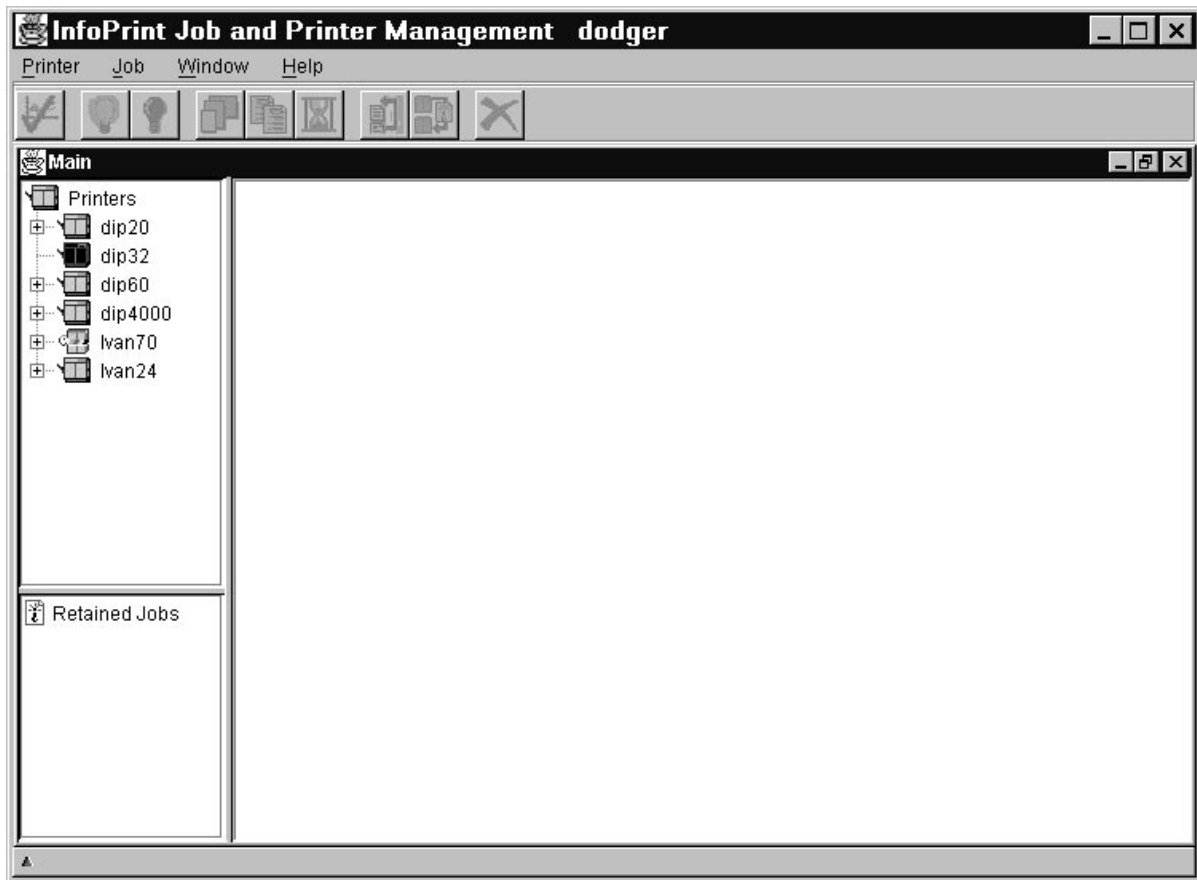

Figure 25. Basic View of the Main Window of the InfoPrint Job and Printer Management GUI
- Select **InfoPrint Basic** to open a view similar to Figure 25 on page 49.
- Select **Basic Operator GUI** to open a view similar to Figure 25 on page 49.
- Double-click on **Basic Operator GUI** to open a view similar to Figure 25 on page 49.
- To open a view similar to Figure 25 on page 49, enter: